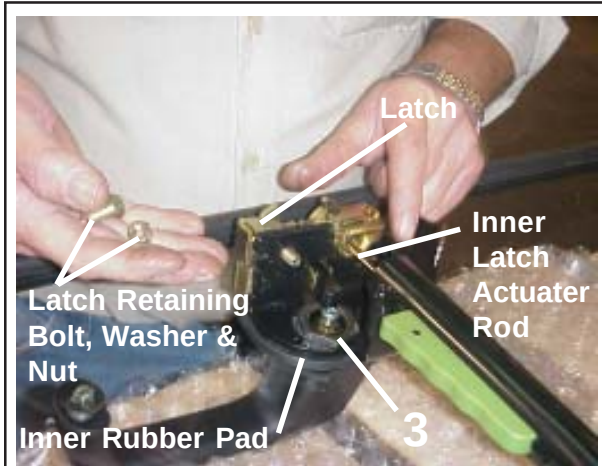

Figure 7
10. Lifting the Latch and turning to the correct angle slide the latch actuated rod through the hole on the latch. Turn and lower latch in place. Using the original Bolts, Washers and nuts bolt on the latch to pipe brace (See Figure 7). These can be tightened at this time.